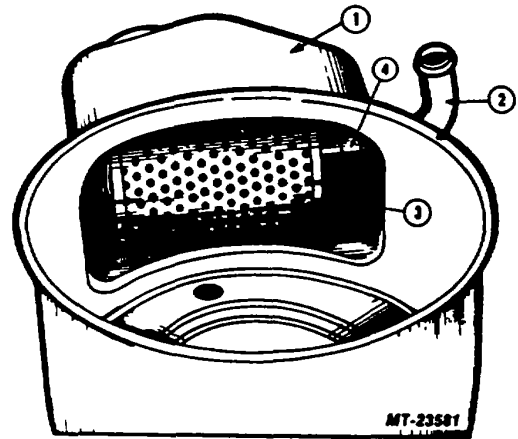

Fig. 43 Filter Element Location
- 22. Prior to assembling reservoir on pump, install a new filter element. The filter element is located in the expansion neck of the reservoir, Figure 43.